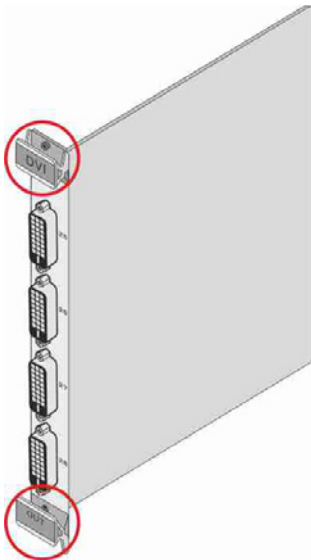

Figure 13: Card Handles
5. Holding the card by the upper and lower handle, align the card with the plastic guide rails (see Figure 13).